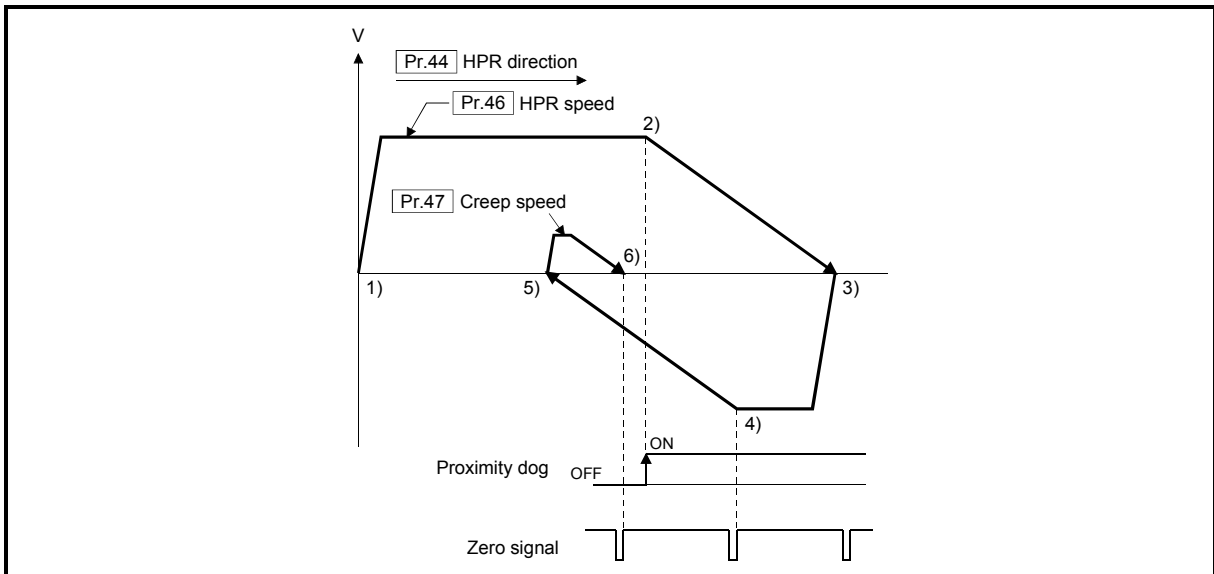

Fig. 8.13 Operation when the zero signal is detected again during deceleration with detection of zero signal
- (3) When the stop signal stops the machine HPR, carry out the machine HPR again. When restart command is turned ON after the stop signal stops the HPR, the error "HPR restart not possible" (error code: 209) will occur.
- (4) The HPR retry will not be performed regardless of setting set in "[Pr.48] HPR retry" in the scale origin signal detection method. When a hardware limit switch is detected during machine HPR, the error "Hardware stroke limit (+)" (error code: 104) or "Hardware stroke limit (-)" (error code: 105) will occur.
- (5) Position the proximity dog forward to overlaps with the hardware limit switch in direction of HPR. When the proximity dog is in the opposite direction against of HPR from the machine HPR start position, the error "Hardware stroke limit (+)" (error code: 104) or "Hardware stroke limit (-)" (error code: 105) will occur.
- (6) When the zero signal is detected again during deceleration (4) of Fig. 8.13) with detection of zero signal, the operation stops at the zero signal detected lastly to complete the HPR.